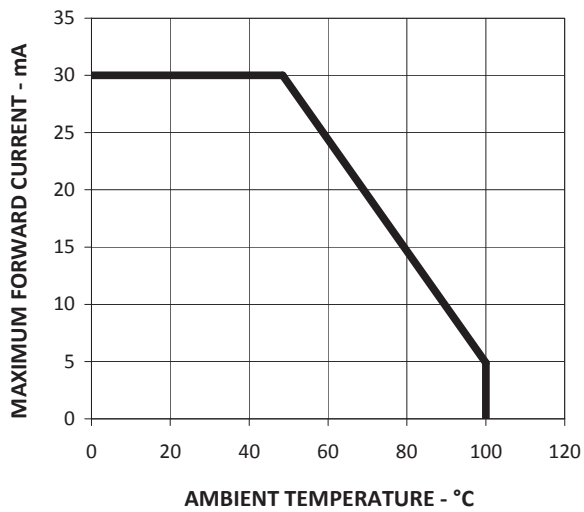

Figure 4. Maximum Forward Current Vs. Ambient Temperature. Derated Based on $T_{JMAX} = 110^{\circ}C$, $R\theta JA = 500^{\circ}C/W$
1. Derate linearly as shown in Figure 4.